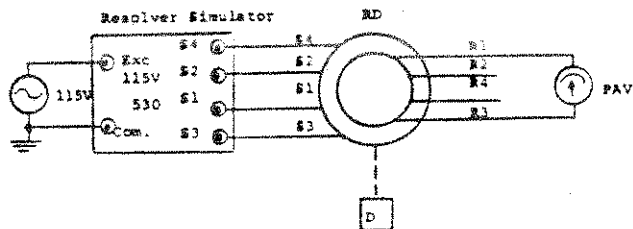

Figure 7-23. Angular Accuracy (RD and RC Stator)
- t. Set up equipment as shown in figure 7-23.